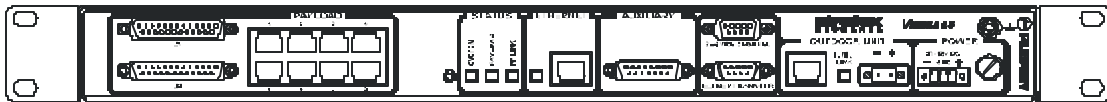

Figure 8-10. Velox LE 25 DIU
- Velox LE 25 (scaleable up to 8 T1/E1) (see Figure 8-10 below).